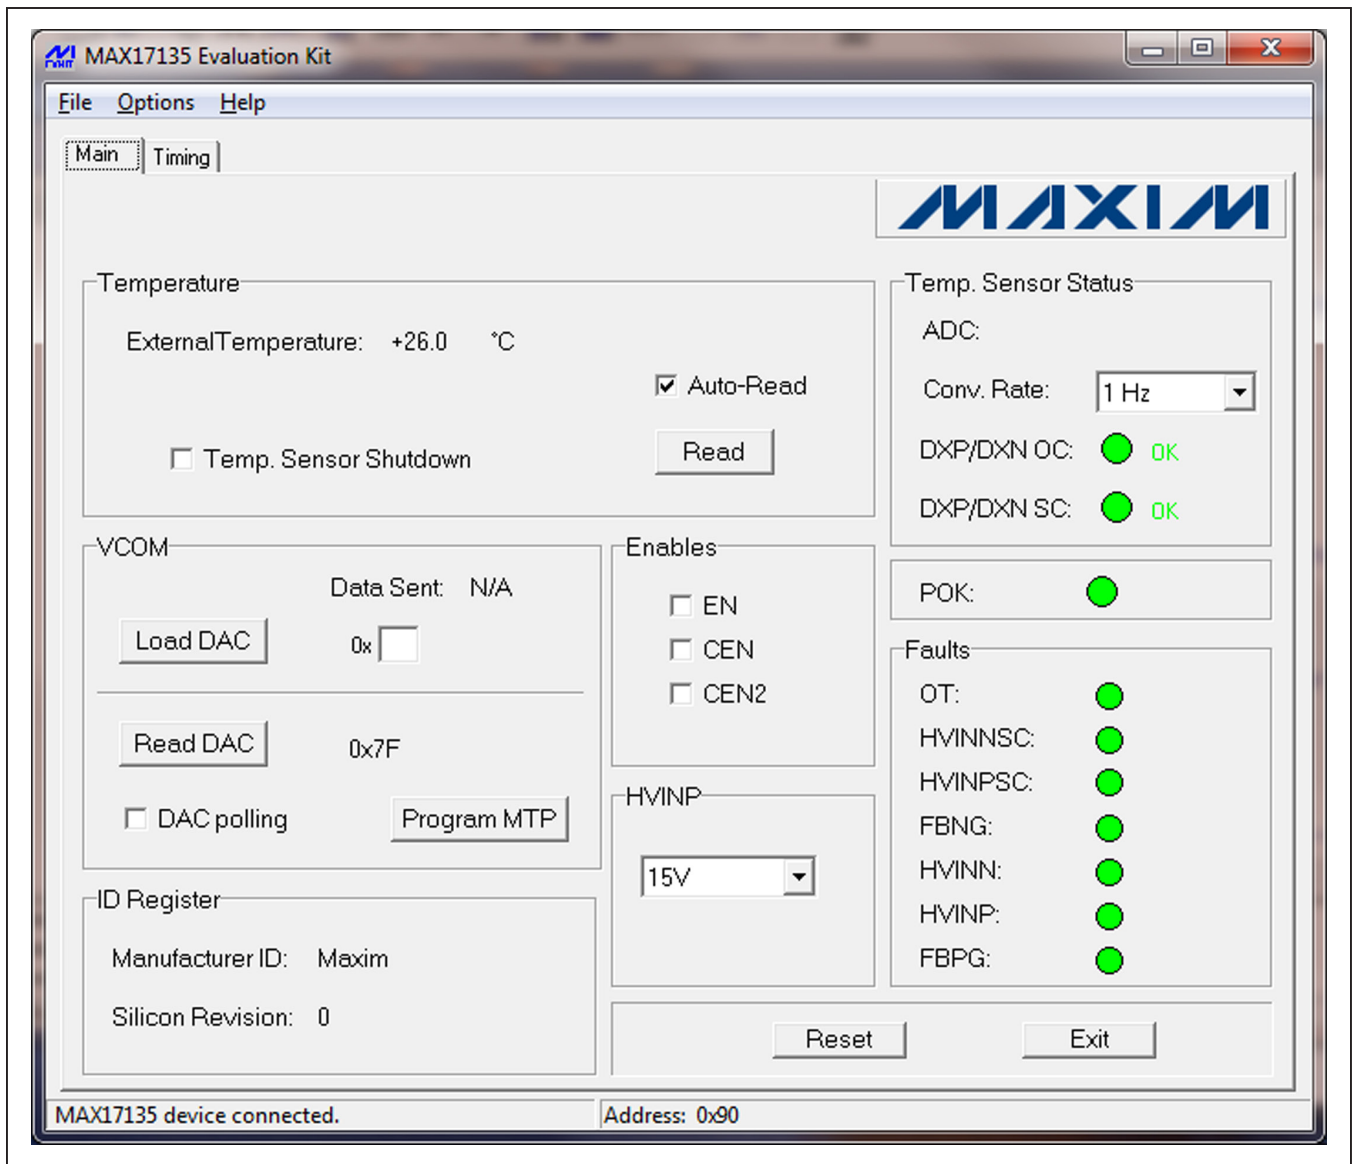
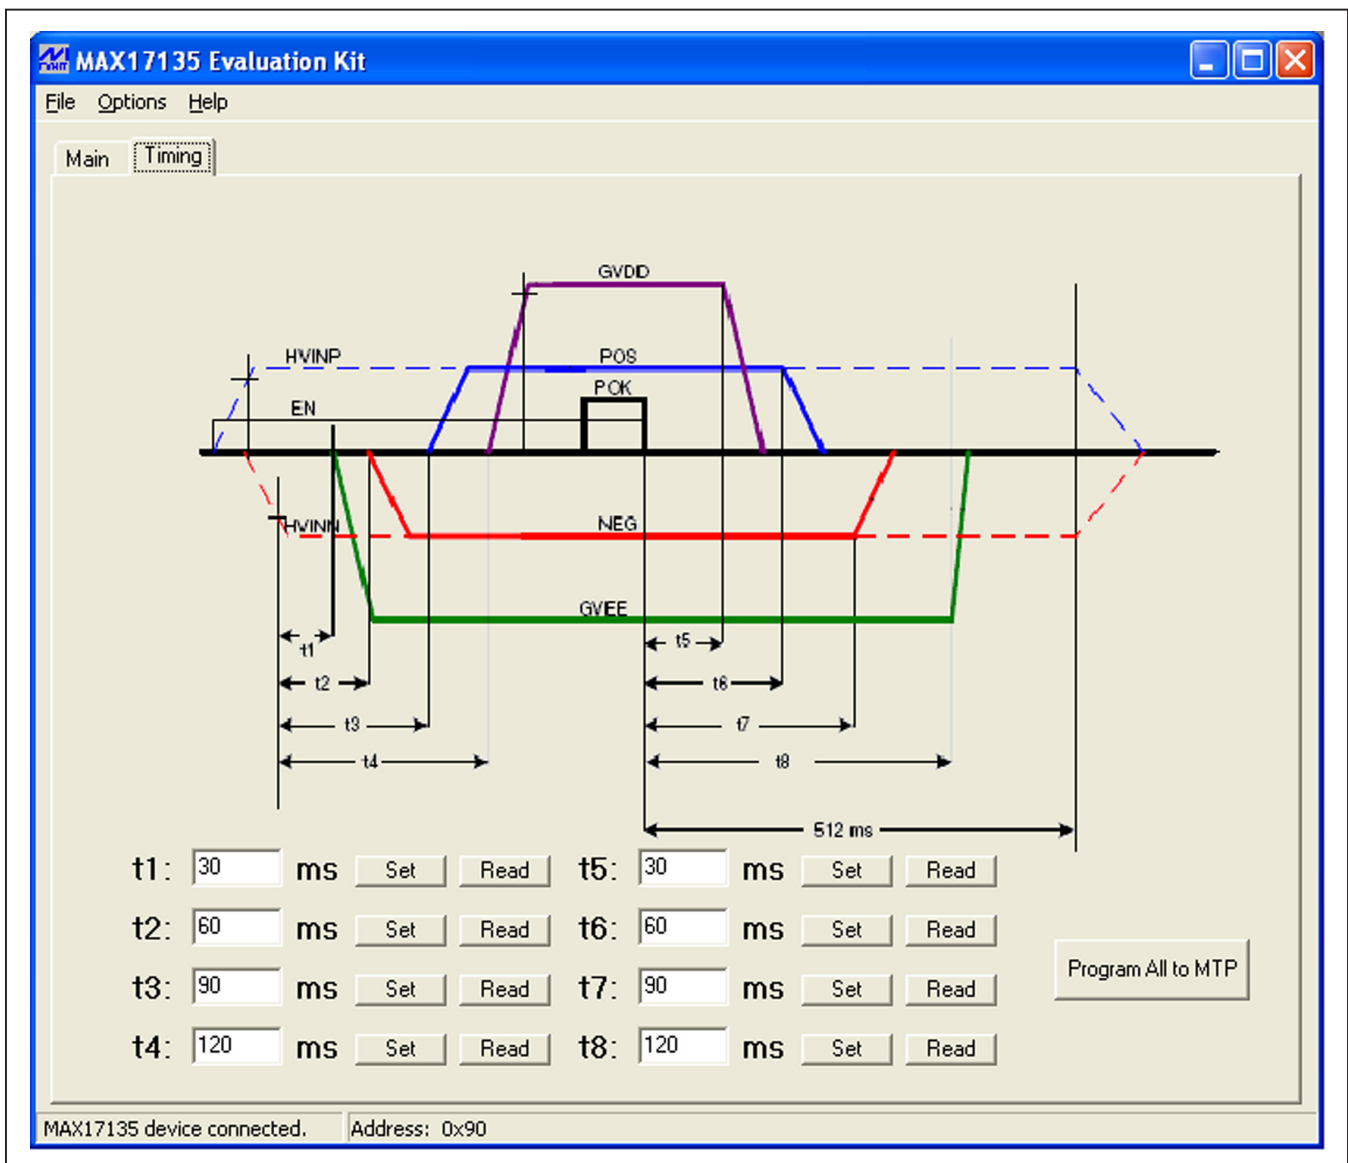
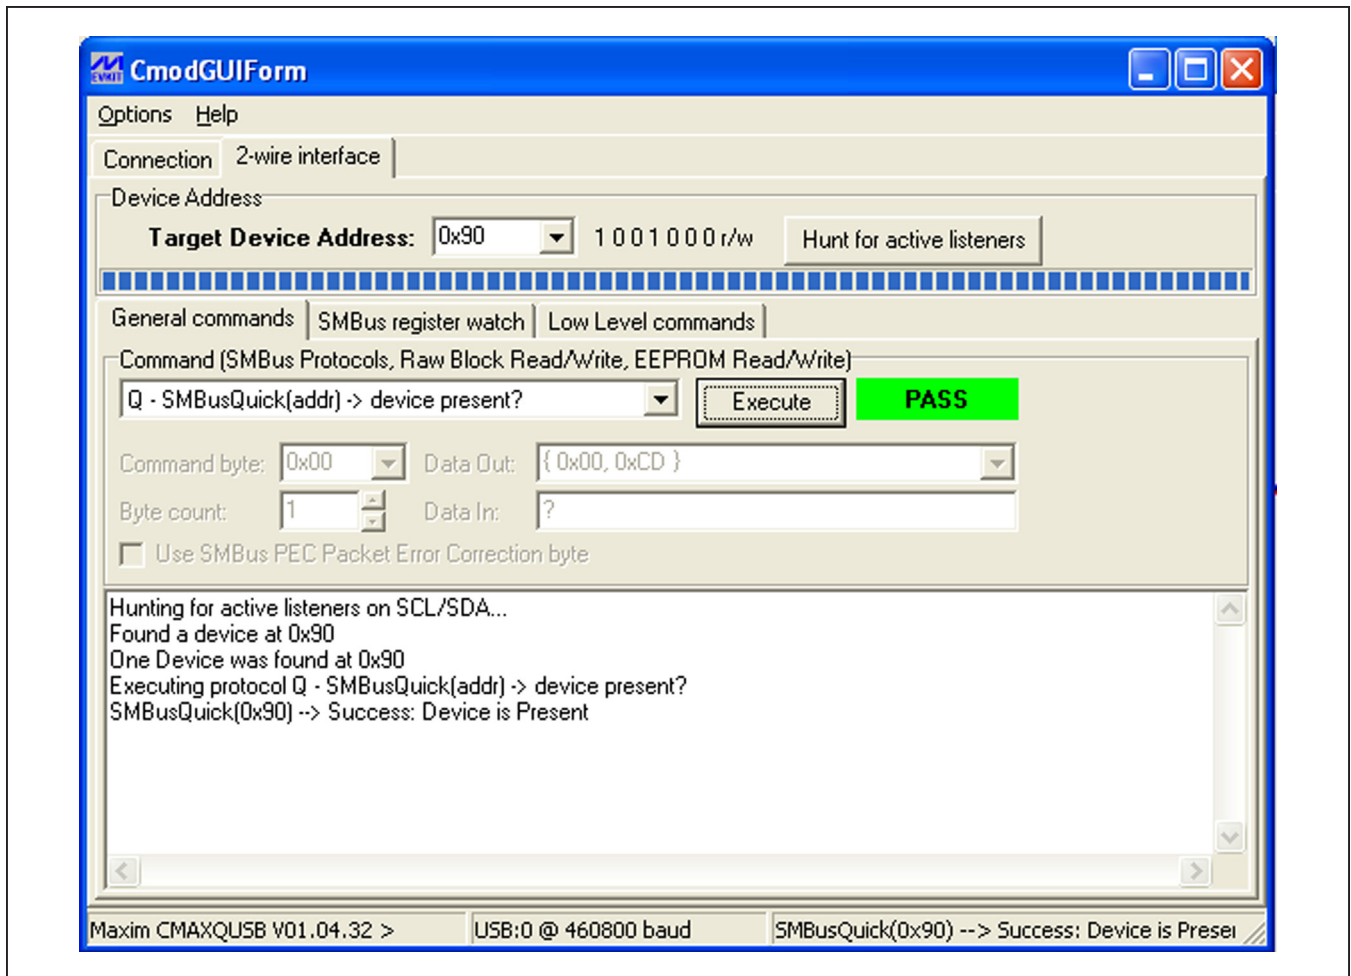

Figure 1. MAX17135 EV Kit Software (Main Tab)
Figure 2. MAX17135 EV Kit Software (Timing Tab)
Figure 3. Command Module Interface Window
- 14) Normal device operation is verified when MAX17135 device connected is displayed in the bottom-left status bar on the EV kit main window (Figure 1).
The MAX17135 EV kit software consists of two tabs: **Main** and **Timing**. The **Main** tab sheet (Figure 1) features controls for reading temperature, VCOM adjustment, enables, HVINP control, temperature sensor status, POK, and monitoring faults. The **Timing** tab sheet (Figure 2) features controls for power-up/power-down sequence and timing between the GVDD, NEG, POS, and GVDD power rails. Refer to the MAX17135 IC data sheet for further details.
The DAC setting corresponds to the specific VCOM voltage. With the EV kit software, the IC's 8-bit internal DAC is configured by entering an appropriate DAC setting into the **Load DAC** edit box in the **VCOM** group box. The DAC setting can be set from 0x00 (VCOMMAX) to 0xFF (VCOMMIN). The DAC setting is written to the IC by pressing the **Load DAC** button (Figure 1).
In the **Timing** tab sheet (Figure 2), the power-up/power-down sequence and timing between the GVEE, NEG, POS, and GVDD power rails can be set by programming the t1–t8 Timing registers with corresponding values. During power-up of the IC, once IN and VDD exceed their undervoltage-lockout thresholds, the t1–t8 Timing registers are loaded with values stored in the nonvolatile memory to preset the t1–t8 timing. The factory-default timing settings in the nonvolatile memory are:
There are two methods for communicating with the IC: through the EV kit software main windows (Figures 1 and 2), or through the **Advanced Users Interface** window, which is available by selecting the **Options | Interface (Advanced Users)** menu item from the menu bar. The Maxim command module interface window (Figure 3) includes a **2-wire interface** tab that allows for execution of the **SMBusSendByte()**, **SMBusReceiveByte()**, and **SMBusQuick()** commands.